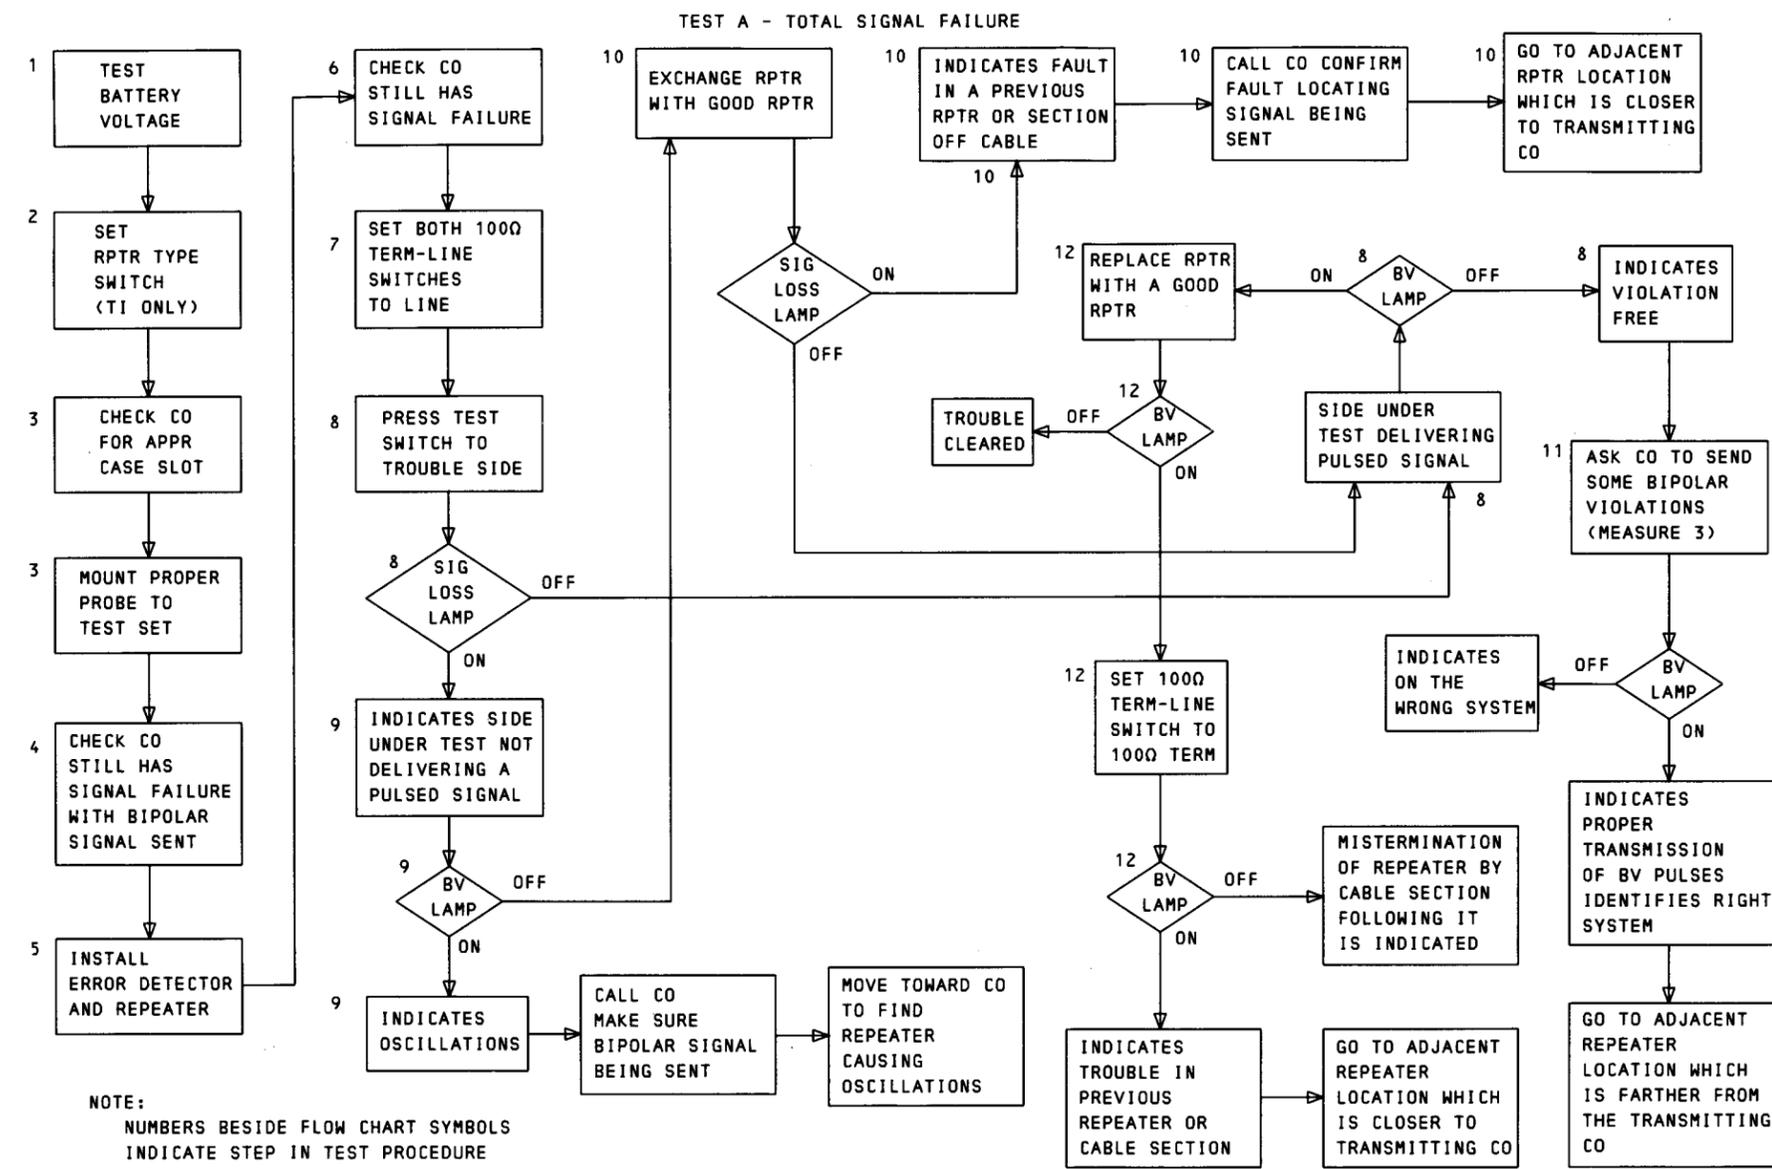

Fig. 3—Test A
3.01 The test procedures listed must be performed in the sequence indicated in the following steps and in flow chart Fig. 3.